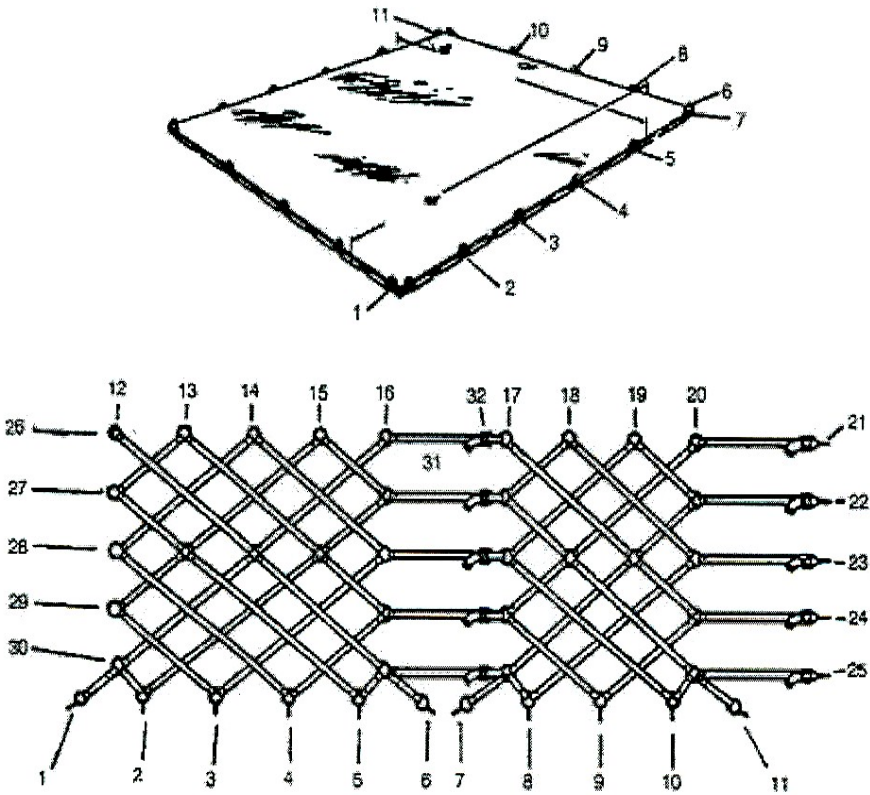
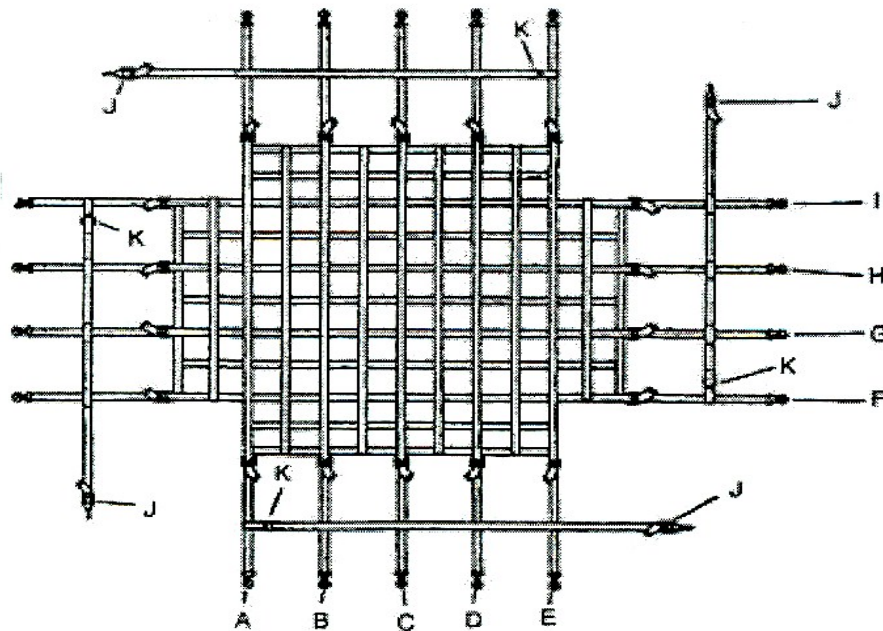

Figure 3-142
Figure 3-143
d. Direct personnel to lay out the two side nets (see Figure 3-142) and the top net (see Figure 3-143) as a set then fold the nets and secure the three nets together.